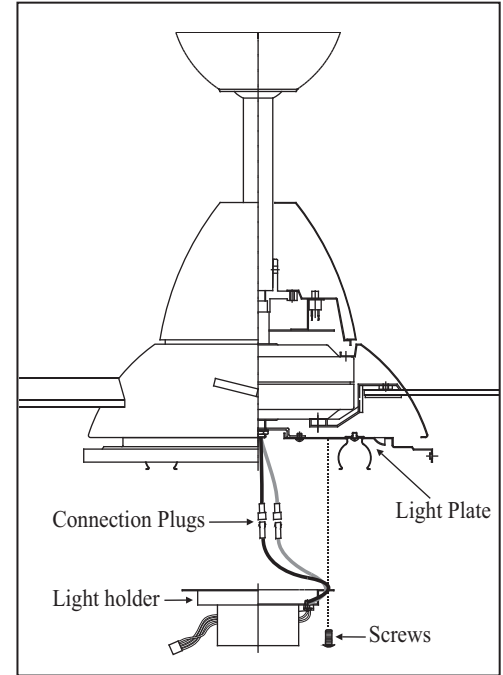

Figure 16
3. Place the key holes on the light holder over the 2 screws previously loosened from the light plate, turn light holder until it locks in place at the narrow section of the key holes. Secure by tightening the 2 screws previously loosened and the one previously removed. (Fig. 16)